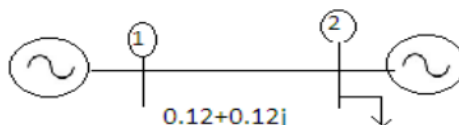

Fig 4(b)
- b) In a two bus system shown in fig 4(b), bus1 is slack bus with $V=1$ pu and bus 2 is load bus with $P=10$ MW, $Q=30$ MVA_r. The line impedance is $(0.12 + 0.12 j)$ pu and half line charging admittance of $j 0.02$ pu on a bus of 100 MVA. Using FDLF method compute $|V_2|$ and δ_2 up to one iteration 12